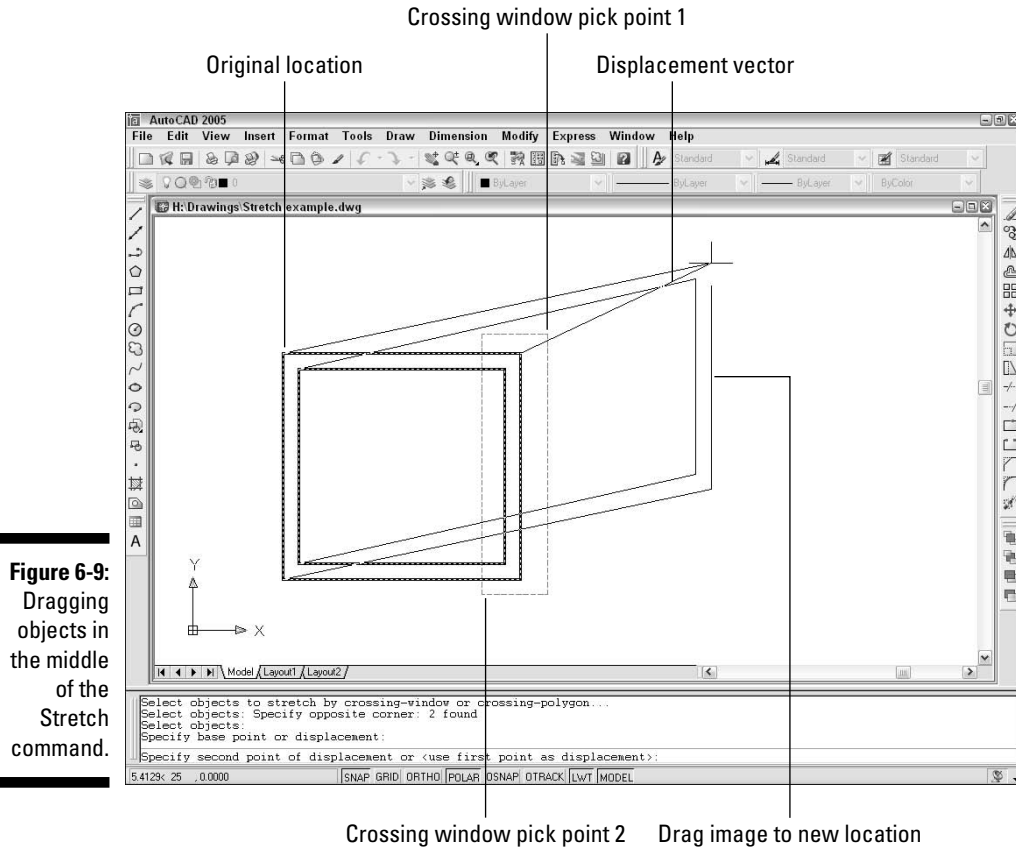

Figure 6-9:
- 1. Draw some lines in an arrangement similar to the dark lines shown in Figure 6-9.**
Figure 6-9 shows a sample crossing selection box that completely encloses the two vertical lines on the right side of the figure. This crossing selection box cuts through the four horizontal lines, enclosing only one endpoint of each.
Figure 6-9 shows what the screen looks like as you move the cursor around with ortho off.